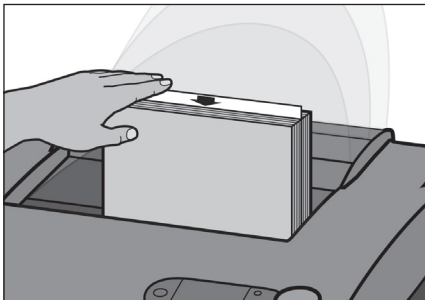

FIGURE 16
5. **Tap Down New Page.** Tap the top edge of the replacement page to ensure that is even with the other pages in the document. (fig. 16)